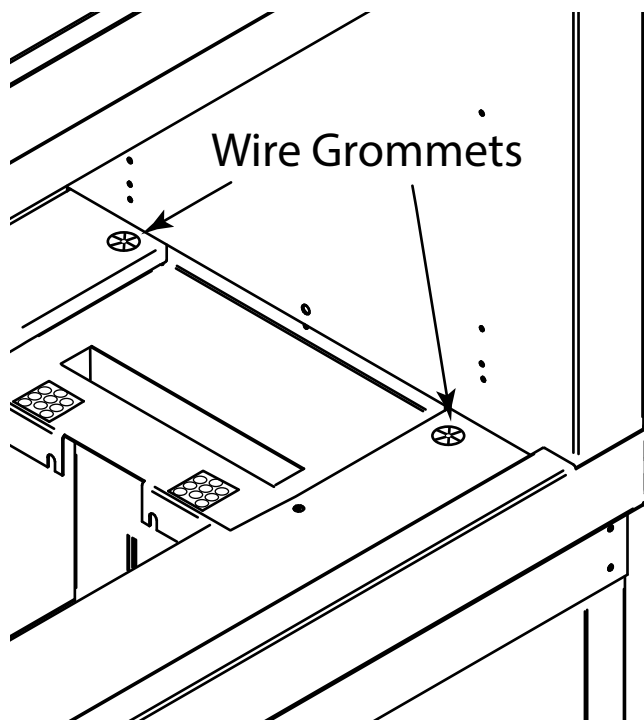
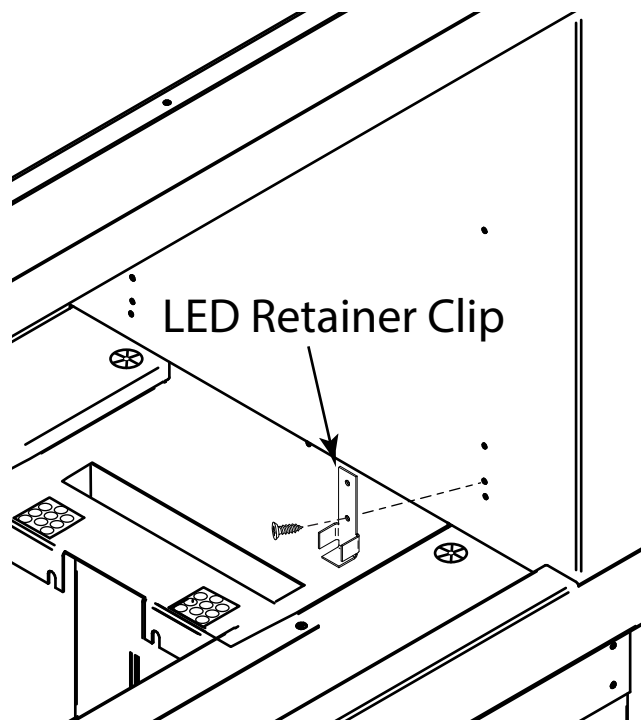

Fig. 16 Locating wire grommets
Fig. 17 Shows clip installed on right side of fireplace
Step 3: Locate the wire grommets inside the firebox. See Fig. 16. Directly above them will be a series of mounting holes for the windshield and LED retainer clips. Prepare the fireplace by installing the LED retainer clips. The retainer clips have two holes in them. Install one (1) clip on the left and one (1) clip on the right side of the inner fireplace side wall. Install as shown in Fig. 17. **Note:** if you are preparing a see-through fireplace you will install a total of (4) retainer clips two on open side.